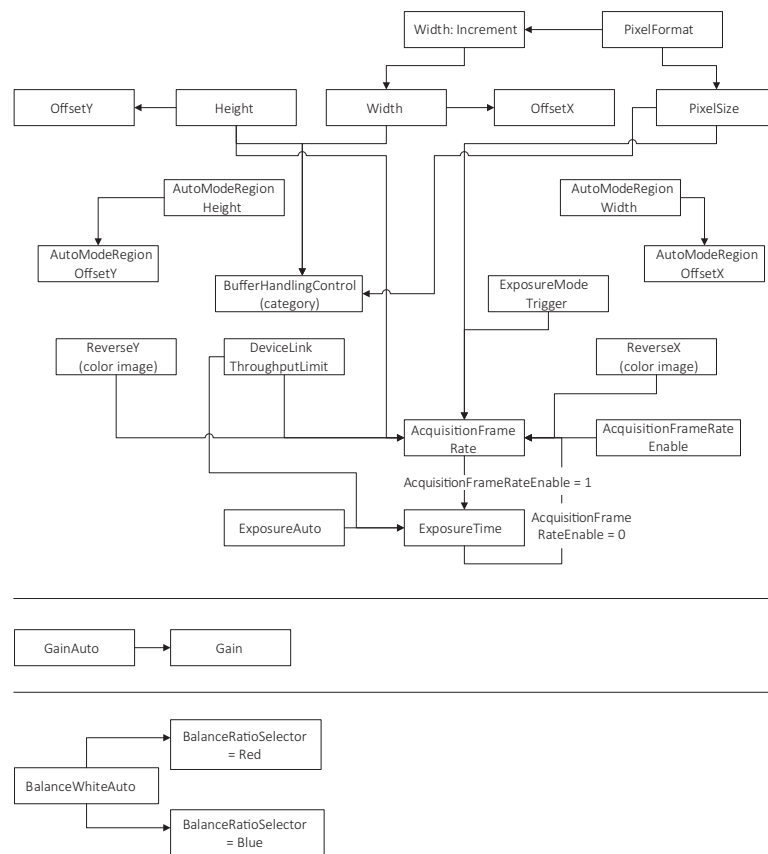

Figure 46: Interdependencies between features
The conversion between time and clock cycles affects control values. Features for pixel format, bandwidth, region of interest, exposure time, and triggering are related to each other. Changing values for one feature can change values for another feature. For example, frame rates can be reduced when the pixel format is changed subsequently. Figure 46 shows the interdependencies.
- To avoid readjustments, follow the order displayed in Figure 46.